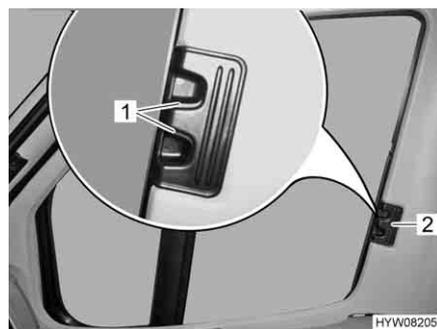

Fig. 83 Roman shade for driver's and passenger's window
- Press the release handles (Fig. 83,1) and hold them down.
- Using the handle (Fig. 83,2), draw the Roman shades for the driver's and passenger's window to the other side of the window and secure them to the magnetic strips.
- Use handle (Fig. 83,2) to push in the Roman shades for the driver's and passenger's window as far as possible.
- Let go of the release handles (Fig. 83,1) and let them engage.